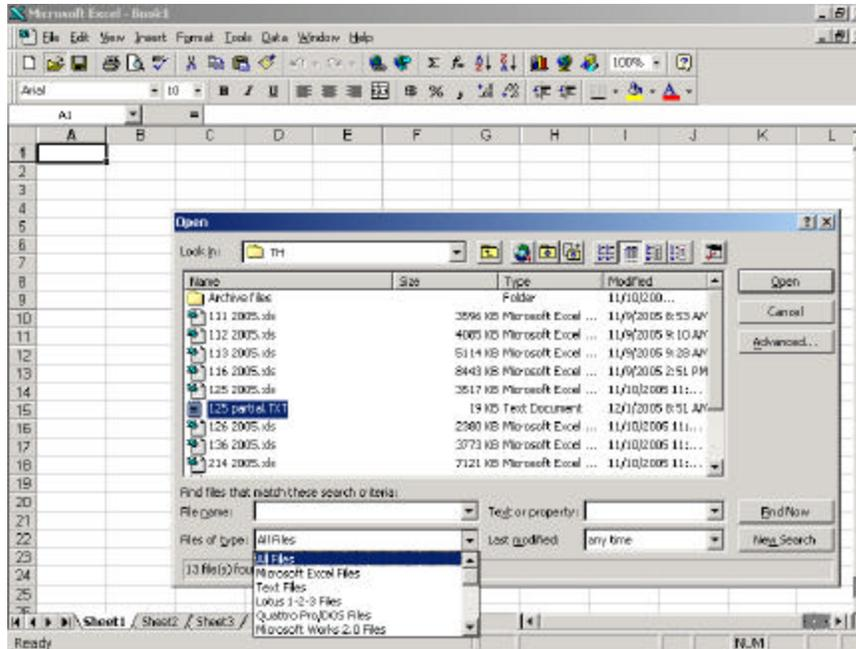

Figure 1. Importing the *.txt File Into Excel
- o Press the **ENTER** key two (2) more times.
- Remove the memory card from the 1620 display and then press the **EXIT** key three (3) times to return to the main display.
- Change the 'Files of type:' from 'Microsoft Excel Files' to 'All Files' (see Figure 1). You will see the desired *.txt file. Select the file. The 'Text Import Wizard' will open it and allow you to specify the formats required.